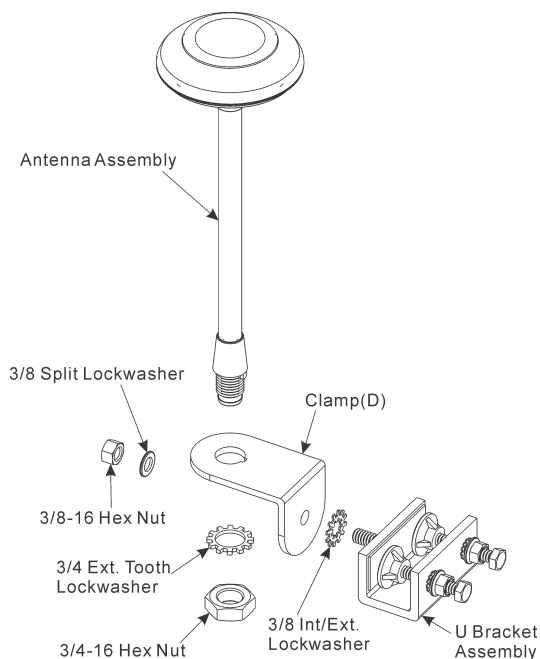

Figure 6- Air Dam Shield Mounting
1. Insert the Antenna Assembly into the Air Dam Shield Clamp D hole. See Figure 6.
7. Assemble the U-Bracket into the Air Dam Shield Clamp D hole. See Figure 6.